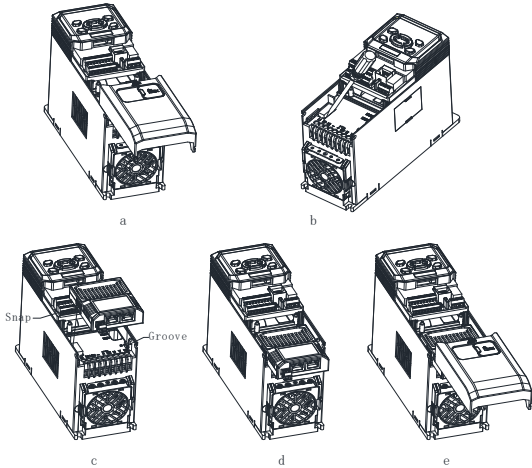

Fig. 2 IO option installation steps
- (1) When the drive is powered off, press the granulated part on the middle-upper of the lower cover, slide it down firmly to take down the cover, as shown in Fig. 2-a.
- (2) Use a straight screwdriver to pry open the dustproof cap, as shown in Fig. 2-b.
- (3) Install the IO option: hold the expansion box (a bus card inside) upwards (indicators up), then align the expansion box with the electrical bus interface of the installation position 2, and press down horizontally to buckle the spring snap of the expansion box into the groove at the lower part of the drive, as shown in Fig. 2-c and Fig. 2-d.
- (4) The bus card is successfully installed, as shown in Fig. 2-e.